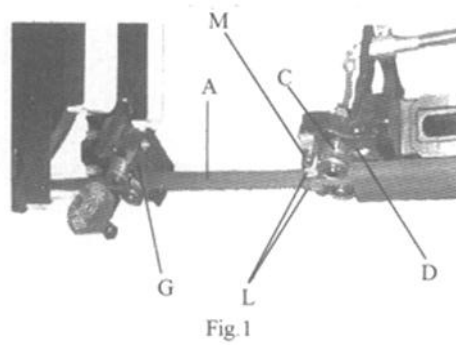

Fig.1
1. Adjust the tension of blade until the back of the blade (A) against the blade wheel (front) lightly.
2. Be sure the nut (E) is tightened.
3. Turn the eccentric shaft (B) counterclockwise, when the bearing (D) touches the saw blade properly, tighten the nut (E).
4. To adjust, loosen set screw (F) and move the blade adjustable up or down until it lightly touches the back of the blade (A).
5. The carbide blade guides (L) Fig.1, should also be adjusted so they lightly touch the blade by loosening screws (M).
6. Repeat 1, 2, 3,4and 5 steps to adjust the other side's blade guide bearings (G).
7. Correct the base and blade to be a vertical position with a scale. If necessary, loosen set screw (F).
8. Set down the blade frame, correct the jaw vise (H) and blade to be a vertical position with a scale then tighten the set screws (I)
9. Loosen set screw 9K), move front jaw vise (J) to against rear jaw vise (H) tightly. Finish correcting by tightening set screw (K).